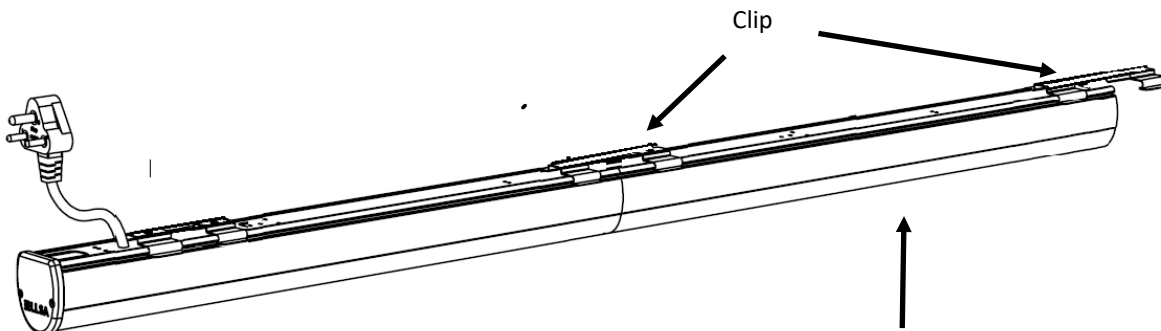

FIG. 6
- Clip the luminaire into place on both sides. Fig.6